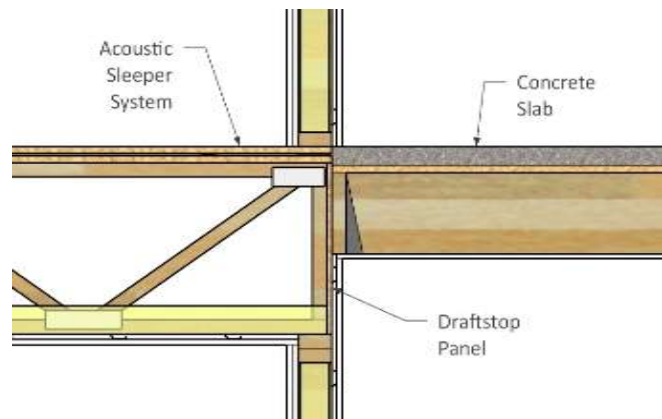

Figure 12: Typical Breezeway Section
- Fig. 12: Typical Breezeway section detail. Drop wood panel subfloor elevation for concrete flush with subfloor at wood framing.